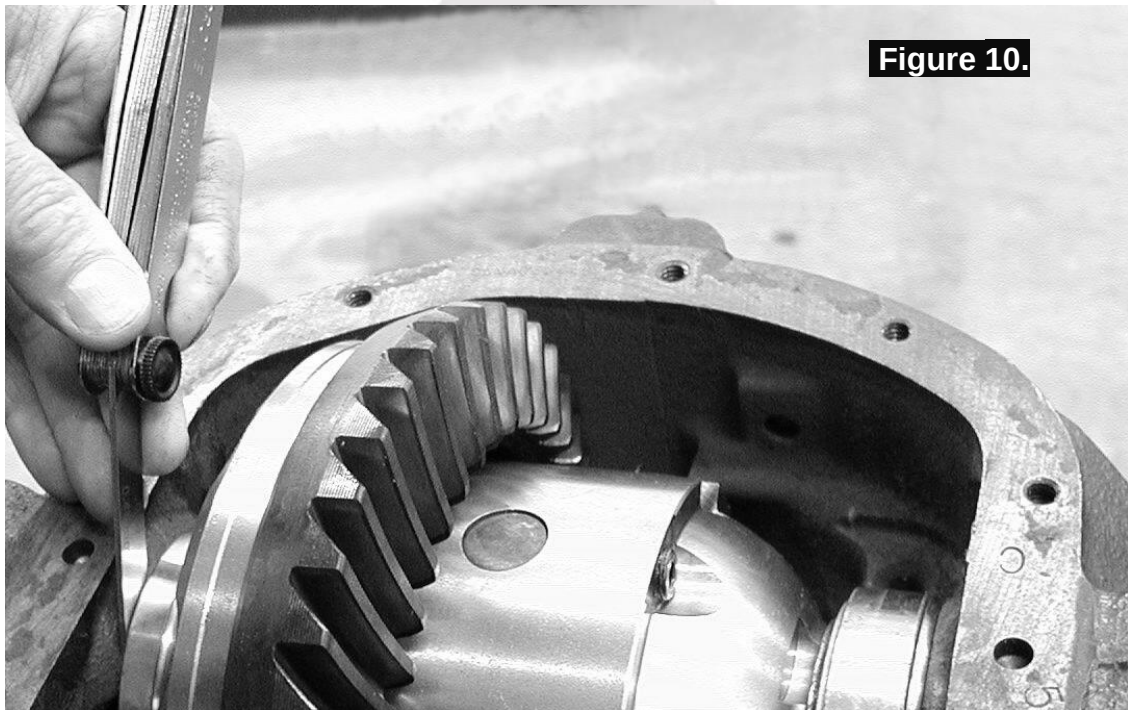

Figure 10.
- ☐ Push (or lightly pry) the *Air Locker* hard across to the right-hand side (against the ARB master shim), and measure the maximum gap (also called the 'end float') between the outside face of the left hand bearing cup and the inside face of the axle housing with an automotive feeler gauge. (Fig.10.)